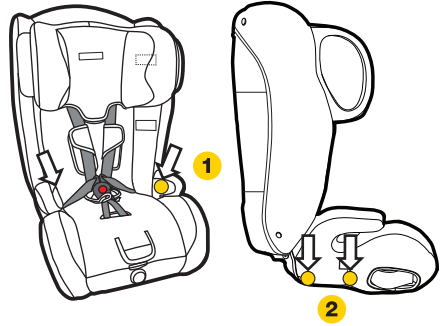

Figure 4
**Step 2:** Unclip the press studs located (refer Figure 4):